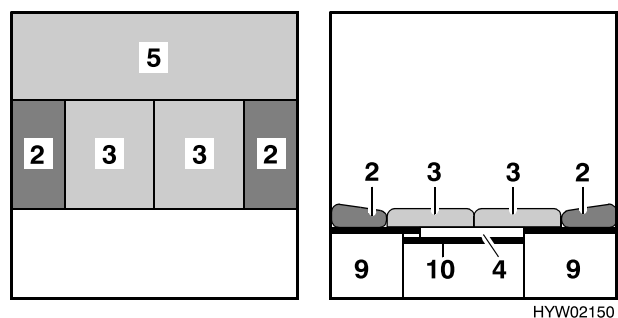

Fig. 92 After conversion
- Place the two seat cushions (Fig. 92,3) in the centre.
- Insert the back cushions (Fig. 92,2) between the seat cushions and the exterior wall.